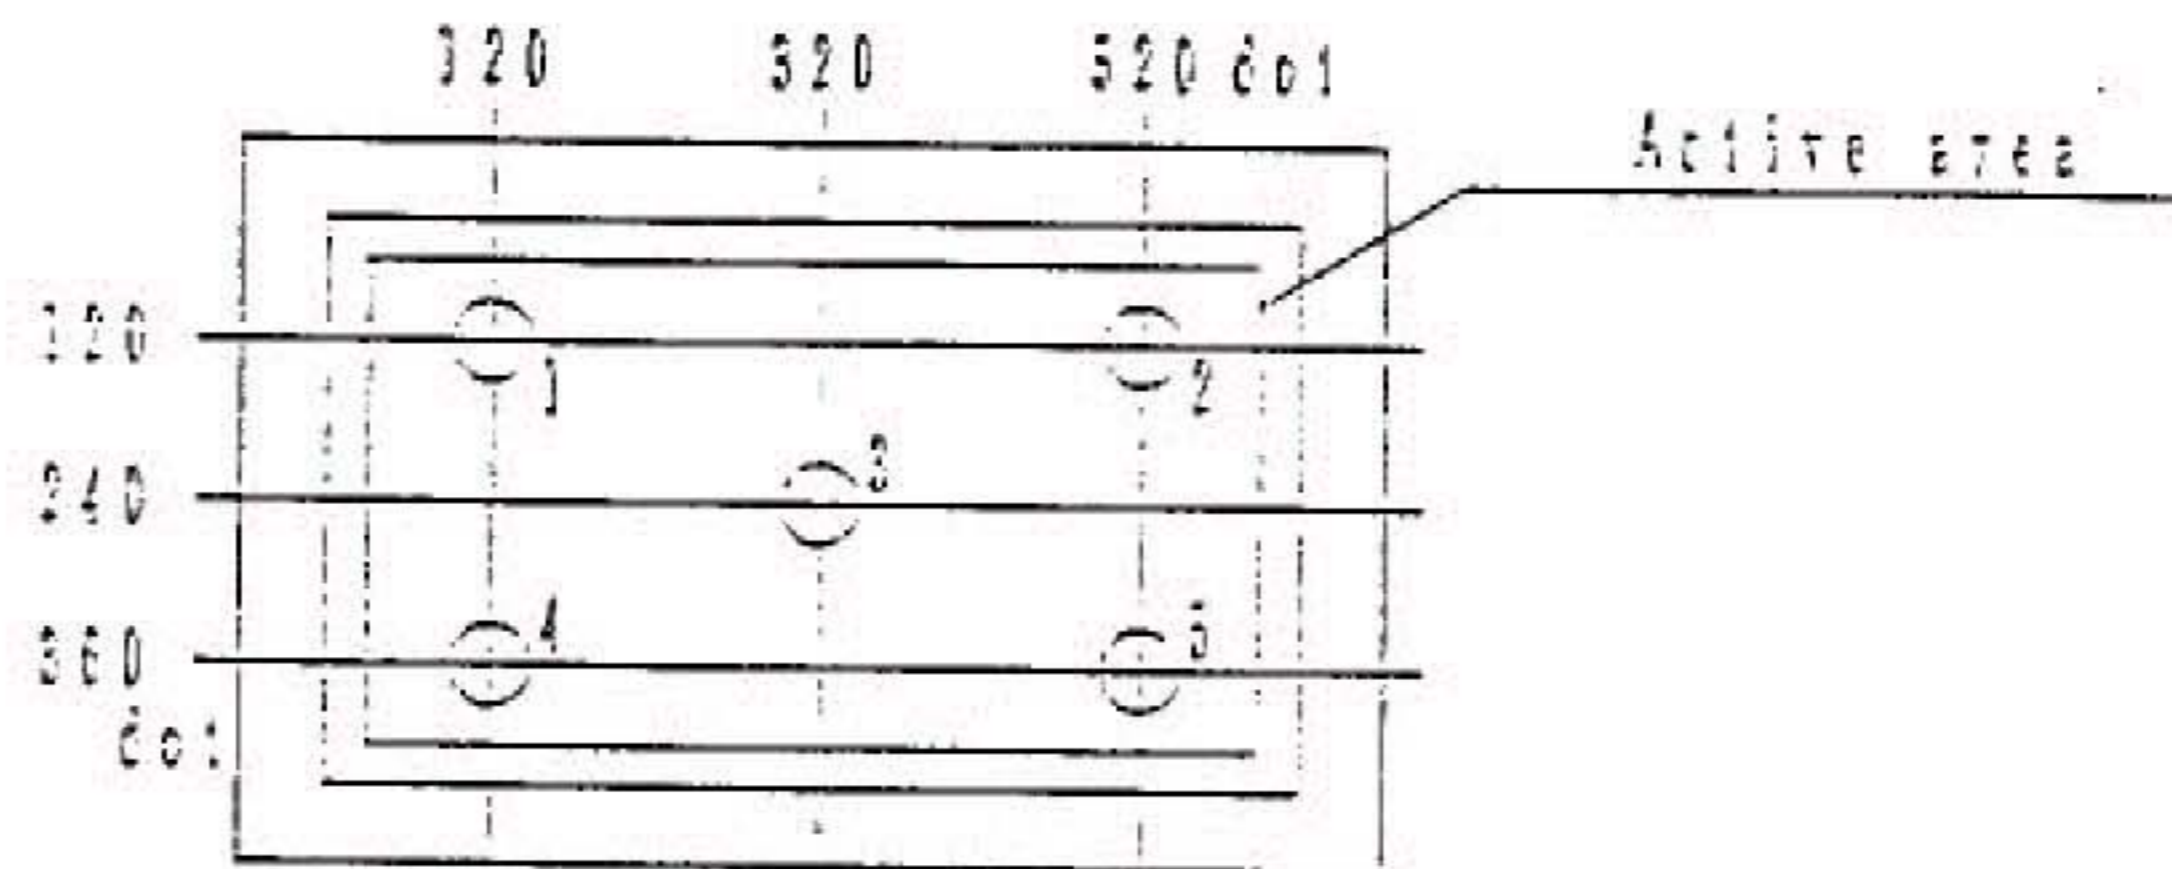

Fig. 1 Measuring points
*5. Measuring at position 3 on Fig.1